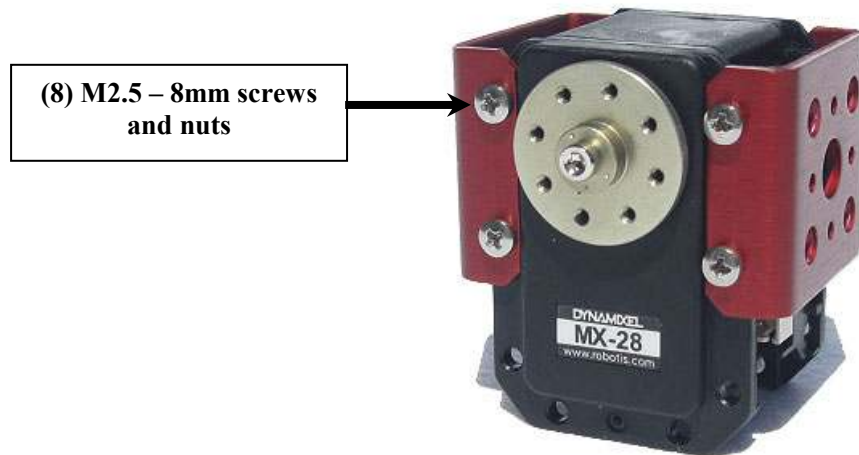

Figure 60
2. Using (8) M2.5 – 8mm screws and nuts, install the MX side bracket to the sides of the wrist rotate servo as shown in figure 60.
3. Slide the assembly from step 1 onto the side of the MX bracket in figure 60 and squeeze the assembly together and center them to ensure the proper spacing for the brackets. Once the assembly width has been adjusted, slide off the assembly from step #1 and tighten the lock nuts.